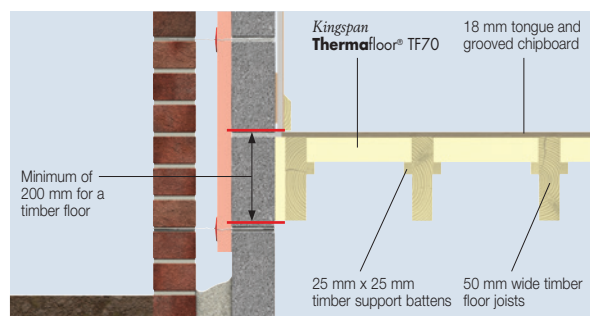

Figure 9 – Complete Timber Floor Insulation
- In order to minimise cold bridging at the edge of the floor, the distance between the top surface of the floor insulation or perimeter insulation upstand, and the bottom of the wall insulation must be a minimum of 150 / 225* mm (see Figures 1 & 2) for a concrete floor and 200 mm for a suspended timber floor (see Figure 9). The further down the wall insulation extends past the floor insulation, the better the thermal performance of the junction between the wall and the floor.